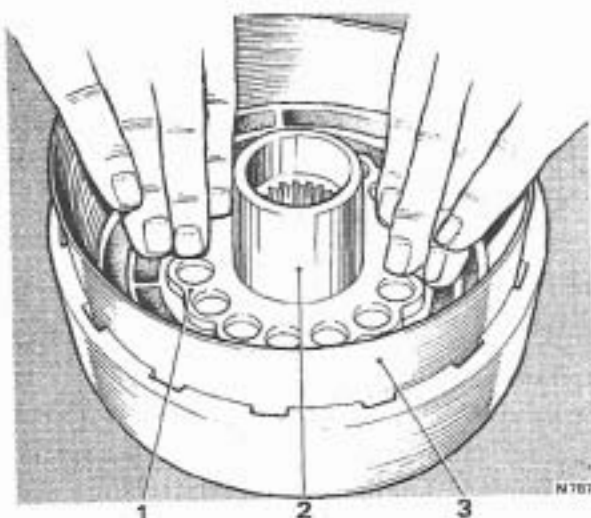

FIG. T251 FITTING THE DIRECT CLUTCH PISTON
4. Fit the clutch piston inside the forward and direct clutch piston installing tool RH 7949 (J-21409). Fit the assembly into the direct clutch housing (see Fig. T251).